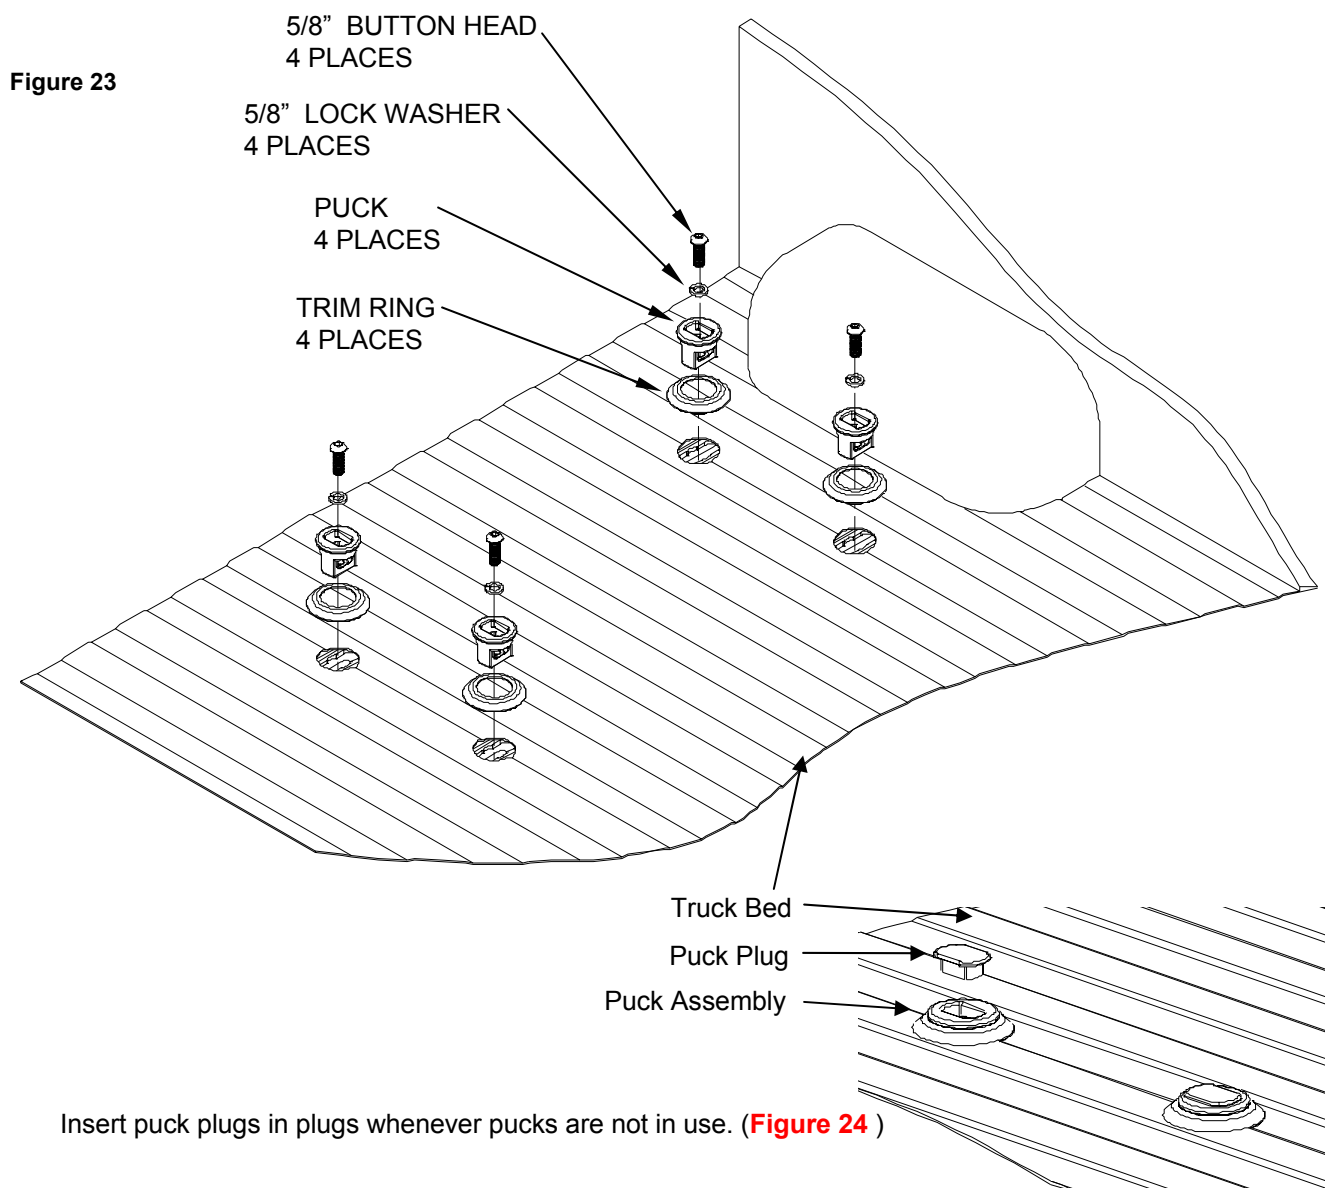

Figure 24
19. Insert puck plugs in plugs whenever pucks are not in use. (**Figure 24**)